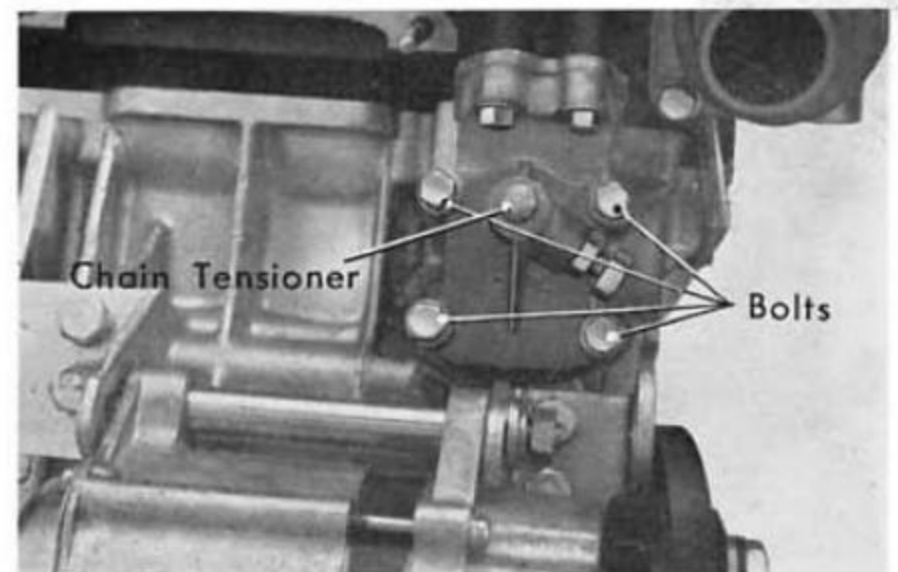

Fig. 1G-3
5. Remove the guide roller setting bolts and remove the guide roller assembly (Fig. 1G-2).